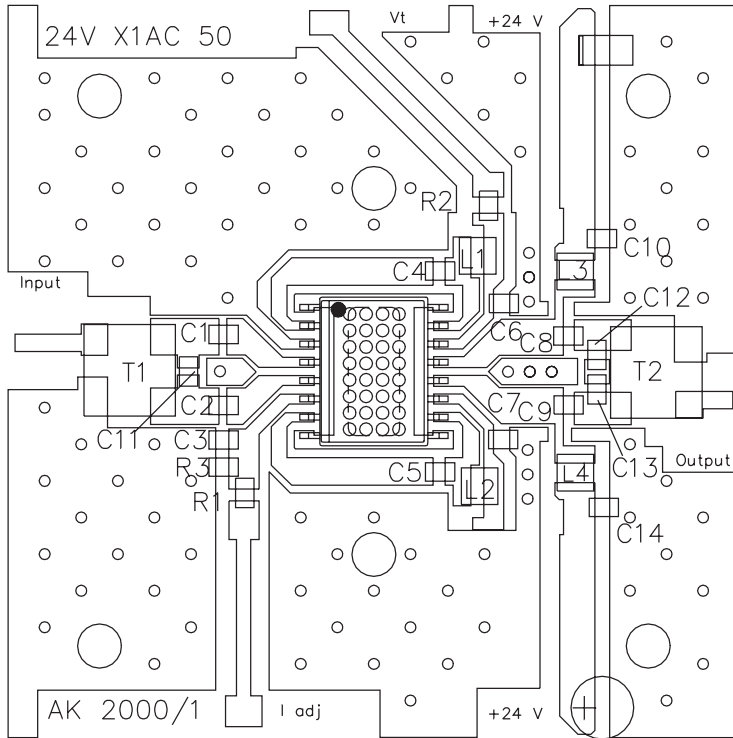

Figure 16: Evaluation Board Layout
6. All specifications as measured on Evaluation Board (see Figures 16 & 17).